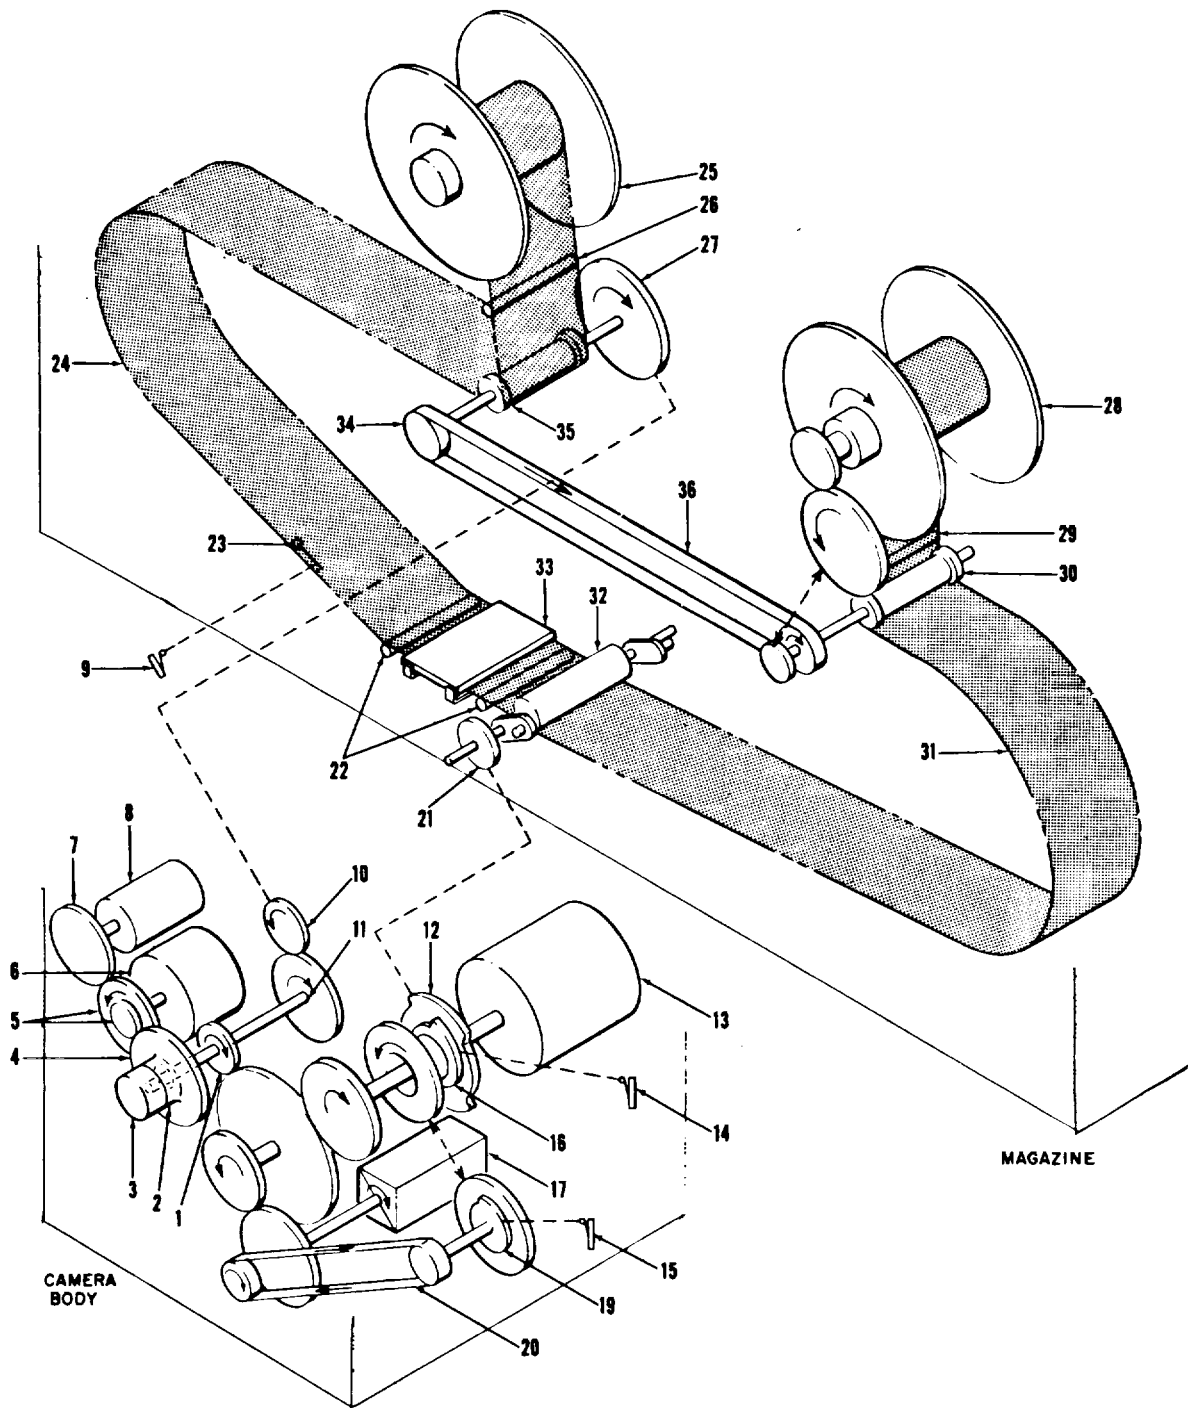

Figure 23. Mechanical Block Diagram.
31. Drive Mechanism (fig. 23)
a. The drive mechanism which transports film and rotates the prism (17) is housed in the body and the magazine. Excitation voltage from the power amplifier (para 29) causes the motor B202 (6) to rotate the clutch input rear (4) and the clutch driving member (2) through a pinion gear (5). Another pinion gear is used to rotate the tach gear (7) causing the tachometer (8) to apply a voltage to chopper amplifier which is proportional to the speed of the motor drive shaft (para 29 and 30). When the clutch engages, the driven member (3) rotates the drive output gear (1) and the film drive shaft (11).
b. Film is threaded through the camera as follows: fresh film from the supply spool (25) is threaded about the supply sprocket (35) and routed under the film keeper (33) forming the supply slack loop (24). The film from the film keeper (33) is routed between the pressure roller (32) and drive roller (13) (forming the takeup slack loop (31)), threaded about the takeup sprocket (30) and collected by the takeup spool (28).
c. Film transport is accomplished when the clutch engages. The film drive shaft (11) rotates the magazine input gear (27) through the linkage gear (10) causing the supply sprocket (35) to rotate in a clockwise direction. The supply sprocket (35) pulls film from the supply spool (25) and routes it to the supply slack loop (24) (increasing the supply slack loop size). The sprocket output gear (34) rotates the takeup spool (28) and takeup sprocket (30) in a clockwise direction through the timing beltgear train arrangement (36) allowing film to be collected from the takeup slack loop (31) (decreasing the takeup slack loop size). The two slack loop sizes change at the same rate.
d. The drive output gear (1) (a above) rotates the drive roller (13) through a gear train and the lift cam (12) through a timing belt (20) -gear train arrangement. As the supply slack loop (24) size increases the cam follower (21) rides on the high side of the lift cam (12). When the supply slack loop (24) increases a predetermined amount the cam follower (21) rides the low side of the lift cam (12). This condition causes the pressure roller (32) to press the film against the rotating drive roller (13), transporting the film from the supply slack loop (24) under the film keeper (33) and to the takeup slack loop (31). As the film passes under the film keeper (33) it is exposed to the target image. The prism(17) which is rotated by a gear train (at the same rate as the film is transported) transmits the target image through the lens, aperture, and slit (not shown) to the film.
e. When the cam follower (21) reaches the high side of the lift cam (12), the pressure roller (32) releases the film from the drive roller (13) and switch S202 (14) disengages the clutch (para 30) thus stopping film transport. The film transport cycle repeats each time the clutch engages. Cam switch S202 (14) is used to engage the clutch (pulse mode), and switch S203 (15) indicates film transport. End of film switch S205 (9) is operated when no film appears under the follower arm (23).
Legend for Figure 23.